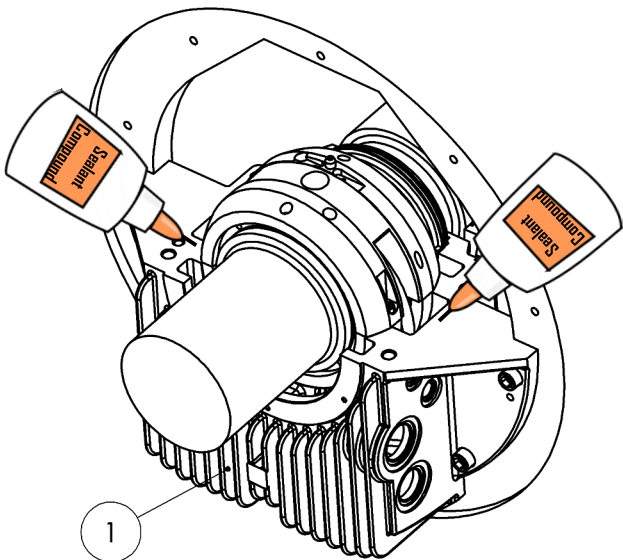
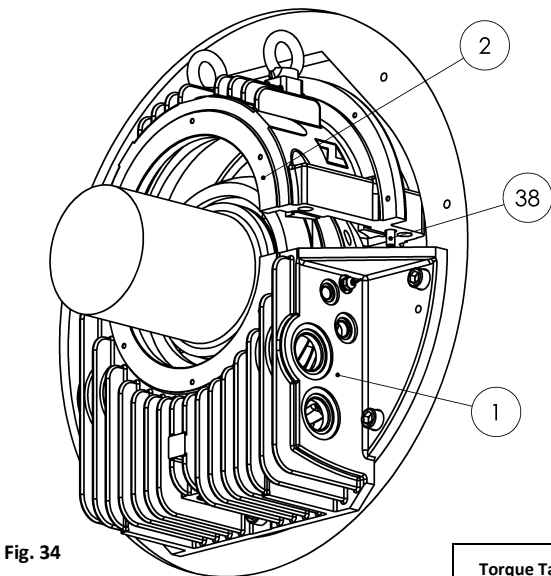

Fig. 33
Fig. 34
- Clean the split line surfaces of the both halves of the housing (Fig. 33). Apply an uniform layer on the split line of the lower bearing housing (1) of a non-hardening sealing compound, eg: Curil T.
- Very carefully place the upper housing (2) into the machine frame without touching the bearing shell or seal.
- The positioning pin (38) in the upper half of the housing fits in the corresponding hole in the lower housing (Fig. 34).
- The positioning pin (37) in the upper half of the shell fits in the corresponding slot in the upper housing.
- The cover screws (5) should now be tightened crosswise with the specified torque values.